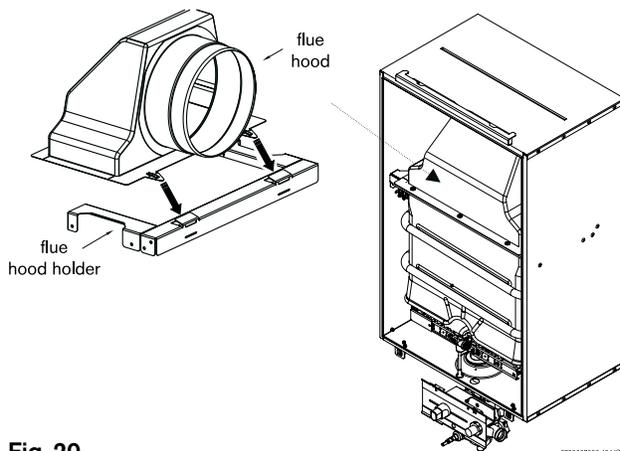

Fig. 20
3. The seals around the igniter cable/thermocouple and pilot gas pipe are correctly seated in the combustion chamber base and the pilot injector has been fitted. (fig. 20).